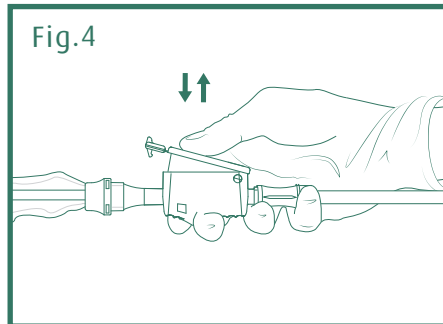

Fig.5
9. **(Fig. 5)** Then gently withdraw catheter until the back ring (F) is visible on the distal side of the patient-end adaptor.
1. **(Fig. 5)** Rotate the operation of isolation valve (N) back to a closed position. Do not turn the isolation valve unless the back ring (F) is clearly visible on the distal side of the irrigation chamber (A) .